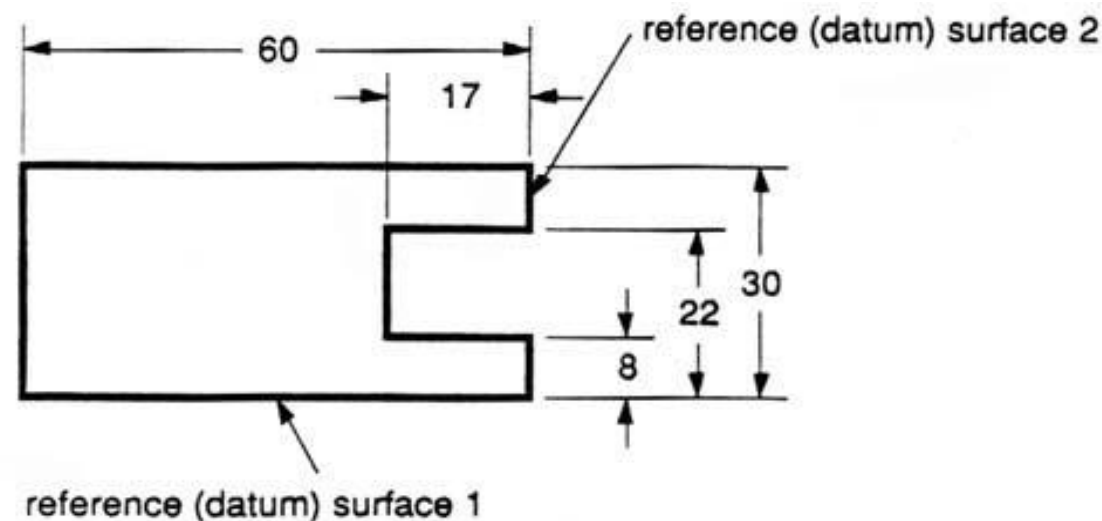
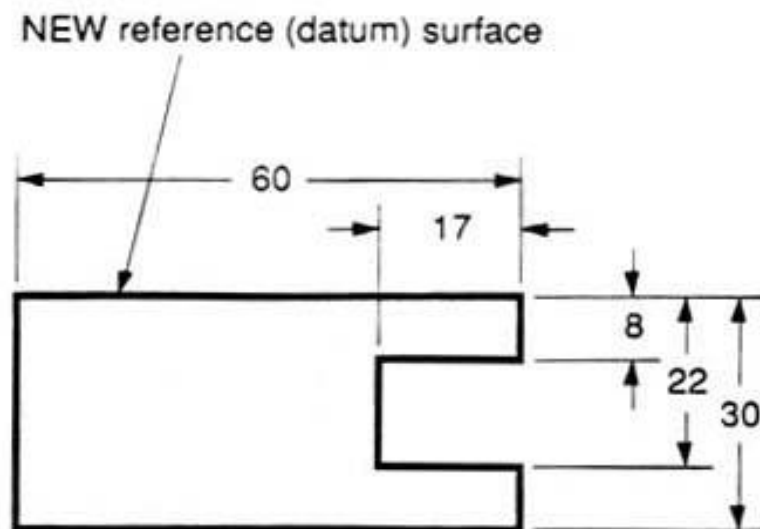

Figure 27 - Surface datum example
Figure 28 - Surface datum example
- We have to make some choices when we dimension a block with a notch or cutout (figure 27). It is usually best to dimension from a common line or surface. This can be called the datum line of surface. This eliminates the addition of measurement or machining inaccuracies that would come from "chain" or "series" dimensioning.
- Notice how the dimensions originate on the datum surfaces. We chose one datum surface in figure 27, and another in figure 28. As long as we are consistent, it makes no difference. (We are just showing the top view).